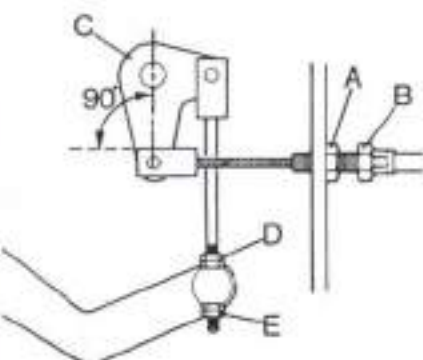

Fig. 157—View showing pto linkage adjustment for 1490 low profile tractors.
To adjust pto clutch, move hand lever to disengaged position. Check angle between centerline of crank lever and cable as shown in Fig. 157. The angle must be 90° and is adjusted by turning cable adjuster sleeve (B). Measure free movement of pto clutch hand lever. If necessary, adjust control rod nuts (D and E) to obtain lever free movement of 63 mm ($\frac{1}{2}$ inches).